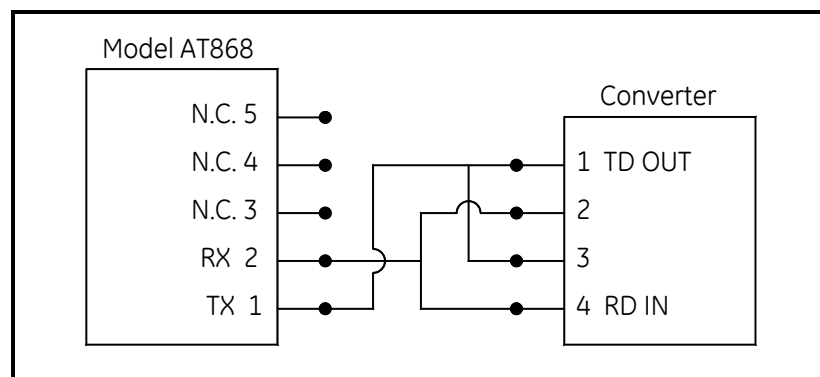

Figure 1-2: Typical RS485 Connections
3. Connect the other end of the cable to the converter (see Figure 1-2 below).